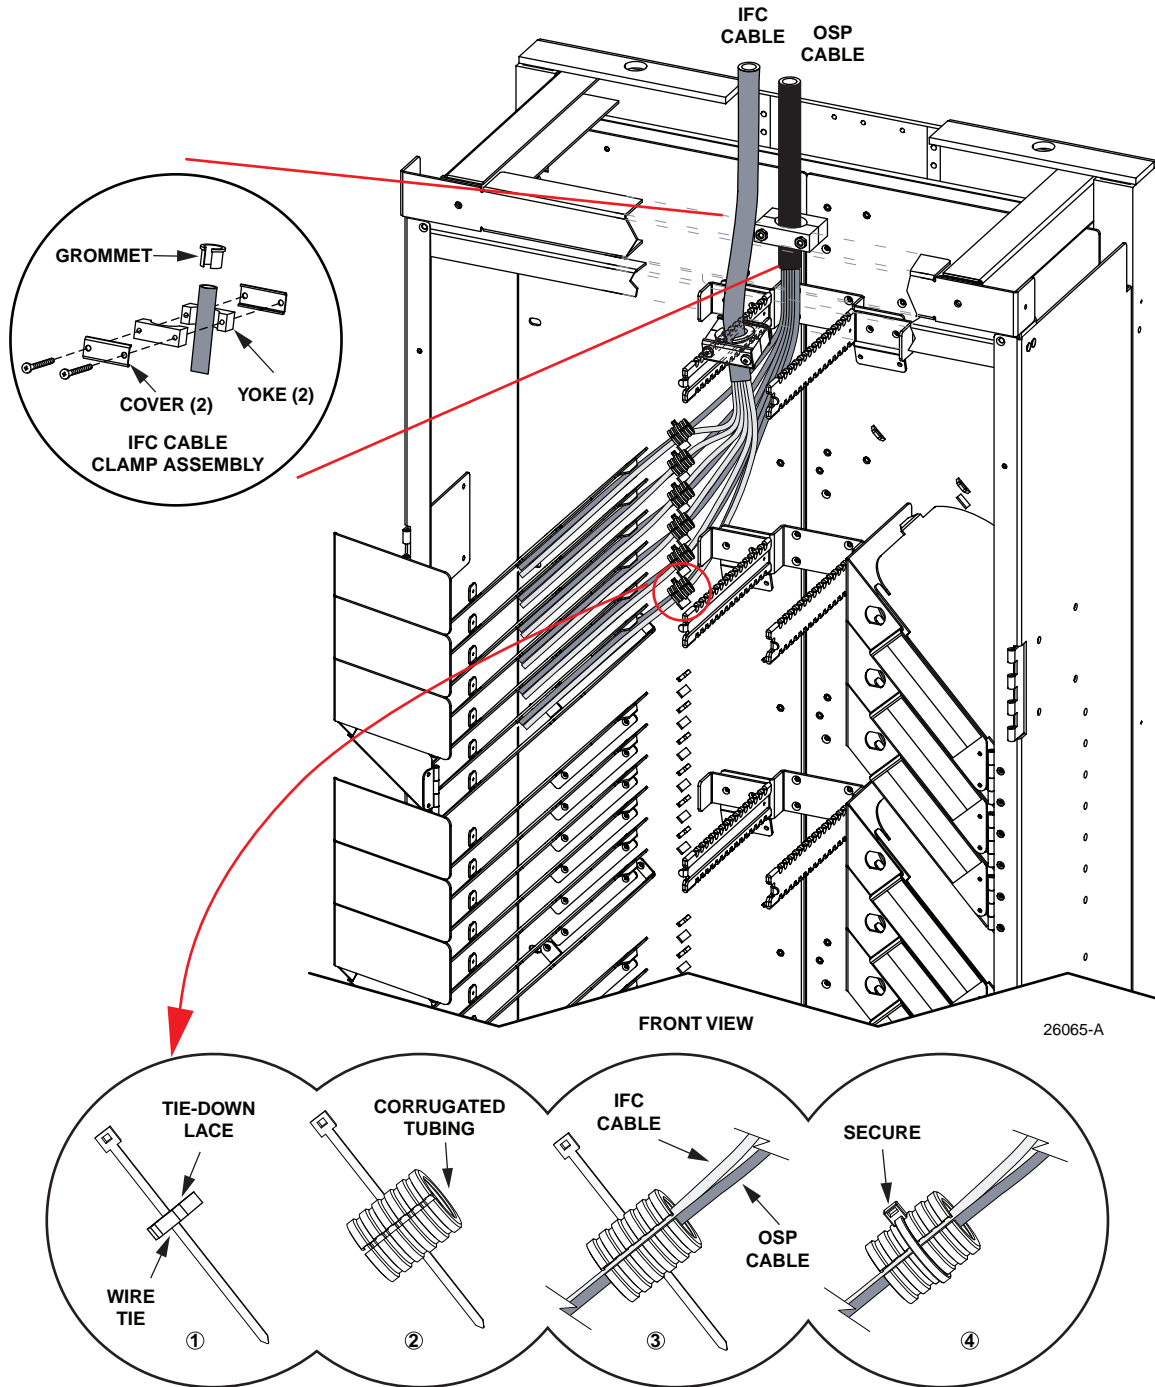

Figure 12. IFC Cable Routing (Overhead Cable Environment)
2. Route and secure IFC cable to the bay as shown in Figure 12.